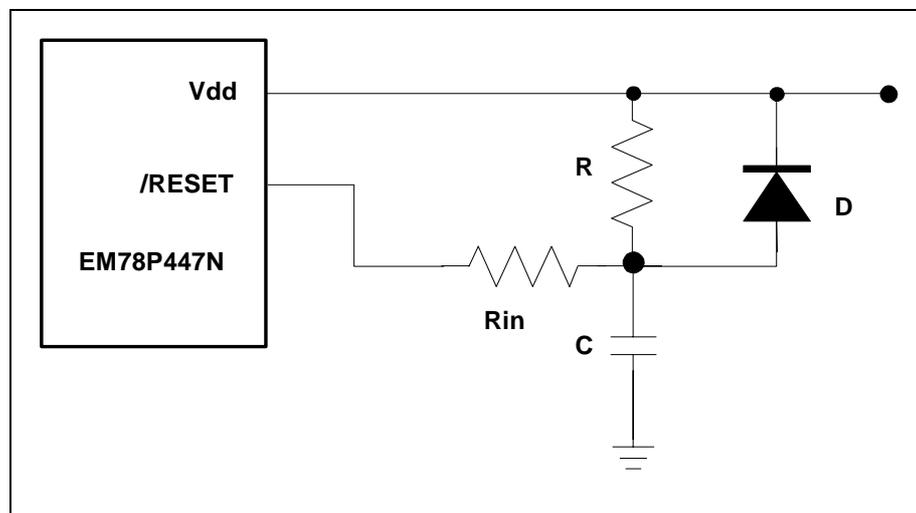

Fig. 4-12 External Power-Up Reset Circuit
The circuit shown in Fig.4-12 implements an external RC to produce the reset pulse. The pulse width (time constant) should be kept long enough for Vdd to reach minimum operation voltage. This circuit is used when the power supply has slow rise time. Because the current leakage from the /RESET pin is about $\pm 5\mu\text{A}$, it is recommended that R should not be greater than 40 K Ω . In this way, the /RESET pin voltage is held below 0.2V. The diode (D) acts as a short circuit at the moment of power down. The capacitor C will discharge rapidly and fully. Rin, the current-limited resistor, will prevent high current or ESD (electrostatic discharge) from flowing to pin /RESET.